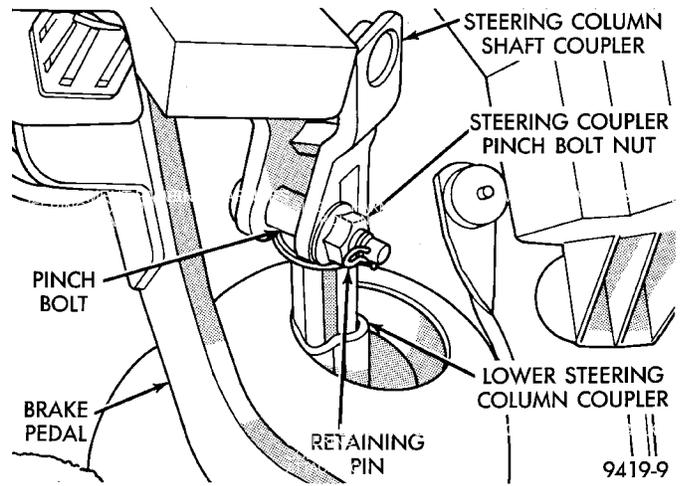
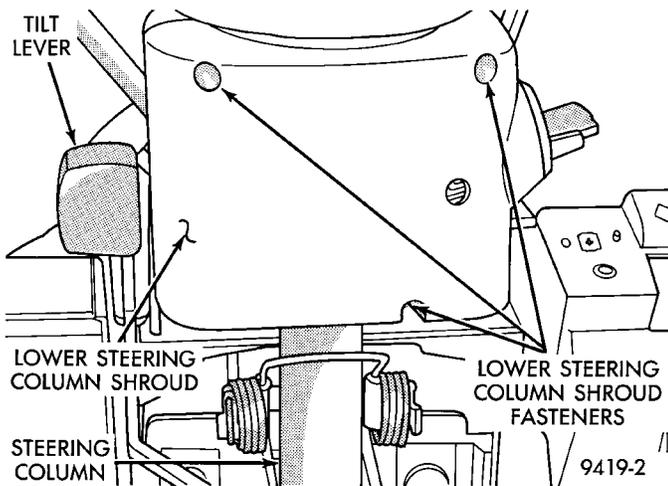
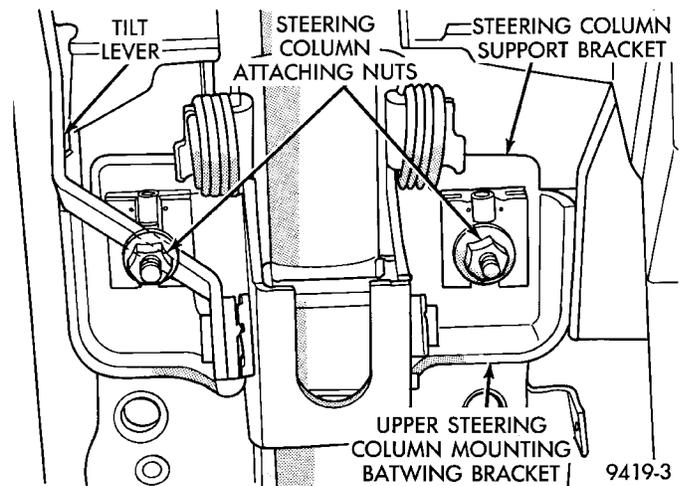
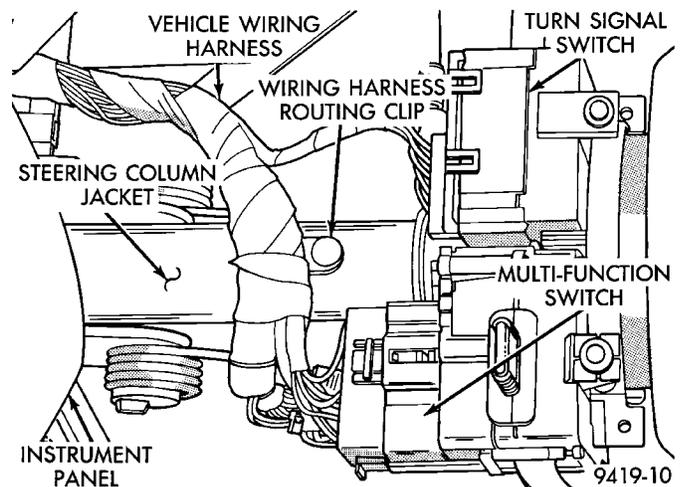

Fig. 16 Upper To Lower Steering Column Coupler Disassembly
Fig. 15 Upper And Lower Steering Column Shrouds
Fig. 17 Steering Column Upper Support Bracket Attaching Nuts
Fig. 18 Steering Column Wiring Connections
(15) Remove the 3 screws attaching the upper and lower shroud to the steering column (Fig. 15). First remove lower shroud from steering column, then release tilt lever and tilt steering column to its lowest point. Then remove upper shroud from steering column.
(16) Remove retaining pin in the upper to lower steering column coupler pinch bolt (Fig. 16).
(17) Loosen the upper to lower steering coupler pinch bolt retaining nut and remove pinch bolt (Fig. 16) from steering coupler. **(Pinch bolt nut is caged to coupler and is not removable.)** Then separate upper steering coupler from lower steering coupler shaft.
(18) Remove the 4 nuts attaching the lower mounting bracket of the steering column to the body mounting bracket for the steering column.
(19) Remove the 2 steering column assembly upper bat wing bracket to support bracket nuts (Fig. 17).
(20) Lower steering column assembly in the steering column access opening of the lower instrument panel.
(21) Remove routing clip (Fig. 18) holding wiring harness to jacket of steering column. Then remove wiring harness connectors from the multi-function switch and the windshield wiper switch (Fig. 18).
(3) Install vehicle wiring harness connectors into multi-function switch and turn signal switch (Fig. 18) on steering column assembly. Install routing clip (Fig. 18) holding wiring harness to jacket of steering column.
(4) Install the studs in the steering column support bracket, into the slots in the plastic capsules of the upper mounting bracket of the steering column (Fig. 17). Partially install the 2 upper steering column assembly mounting bracket to support bracket attaching nuts (Fig. 17). **Do not tighten the 2 mounting nuts at this time.**
(5) Align the bolt holes in the steering column lower mounting bracket with the threaded holes in the body mounting bracket for the steering column. Install and loosely tighten the steering column lower mounting bracket bolts.
(6) Install the upper and lower steering column shrouds onto the lock housing of the steering column assembly. Install and securely tighten the 3 upper to lower steering column shroud to lock housing attaching screws (Fig. 15).
(7) Be sure both breakaway capsules are still fully seated in the slots of the upper steering column mounting bracket. Equally tighten both steering column mounting nuts, until upper steering column mounting bracket is seated against support bracket. Then tighten the 2 steering column upper mounting bracket nuts to a torque of 17 N·m (150 in. lbs.).
(8) Tighten the steering column lower mounting bracket nuts (2) to a torque of 17 N·m (150 in. lbs.).
(9) Assemble the steering column flex coupler to the intermediate steering coupler (Fig. 16). Install the steering coupler pinch bolt. Torque the pinch bolt nut to 28 N·m (250 in. lbs.). **Be sure to install upper to lower steering coupler pinch bolt retaining pin (Fig. 16).**